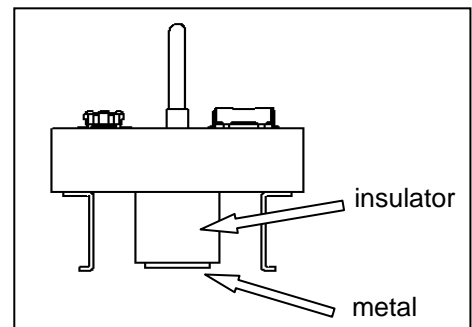

Figure 2-4. TC protrusion
(1) Apply cream solder to the foot pattern of the target system for mounting an IC.
(2) There is a circular protrusion (Figure 2-4) in middle of the bottom of the TC. The center of this cylinder is a metallic component (metal plated) for the GND connection. In the same manner as the IC pad, the TC GND is connected to the target board GND by applying cream solder to the pad in the center of the recommended IC foot pattern and then reflow soldering.
(3) Soldering condition of TC